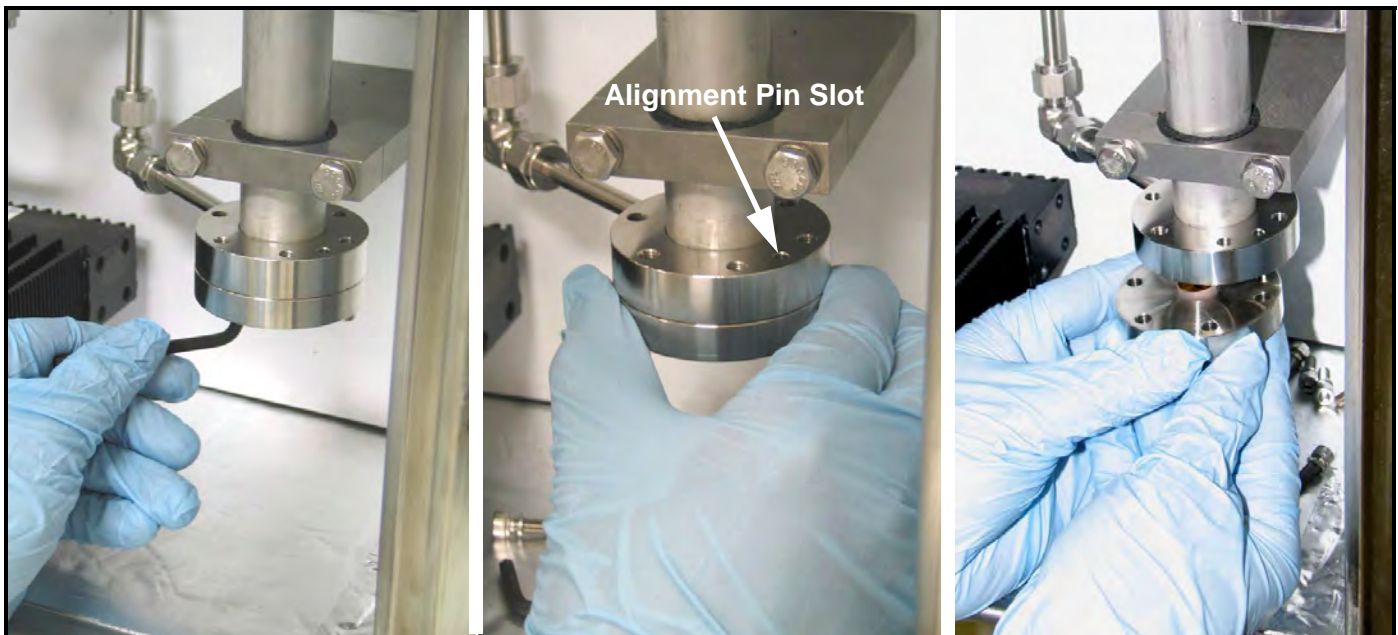

Figure 77: Removing the Aurora H2O Mirror
4. Remove the 6 hex bolts securing the mirror (see *Figure 77* below). A 5/32 inch allen wrench is required to accomplish this task. Hold the stainless steel base of the mirror with one hand while removing the last retaining bolts. The mirror is removed by pulling it straight down. There is one alignment pin to facilitate proper removal.